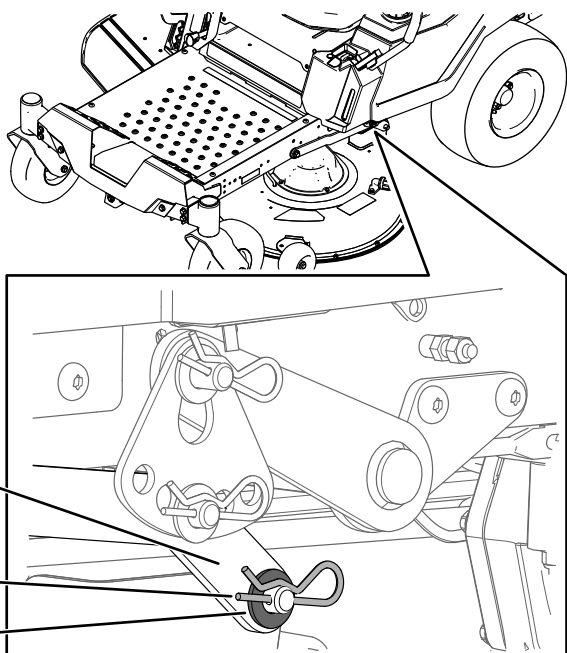

Figure 65
6. On 1 side of the machine, remove the washer and hairpin cotter from the deck pin (Figure 65).
7. Remove the lift arm from the deck pin (Figure 65).
5. On 1 side of the machine, lift the rear of the mower deck and install the lift arm to the deck pin (Figure 65).
6. Install the lift arm using the washer and hairpin cotter (Figure 65).